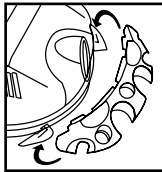

FIGURE 10
10. With rear of unit facing you, take tool holder and position it with tabs facing rear of unit. **FIGURE 10.**